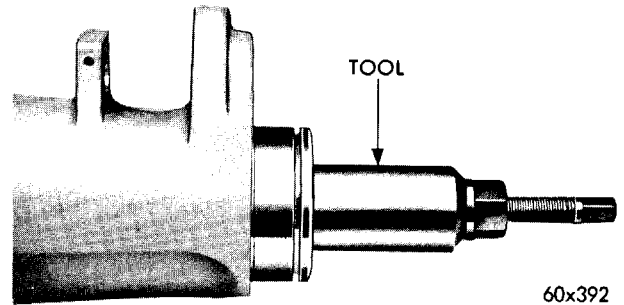

Fig. 21—Removing Output Shaft Oil Seal
(1) Remove the parking brake assembly. See Paragraph 19.
(2) Screw taper threaded end of Tool C-3753 into the seal, then tighten screw of tool to remove the seal (Fig. 21).